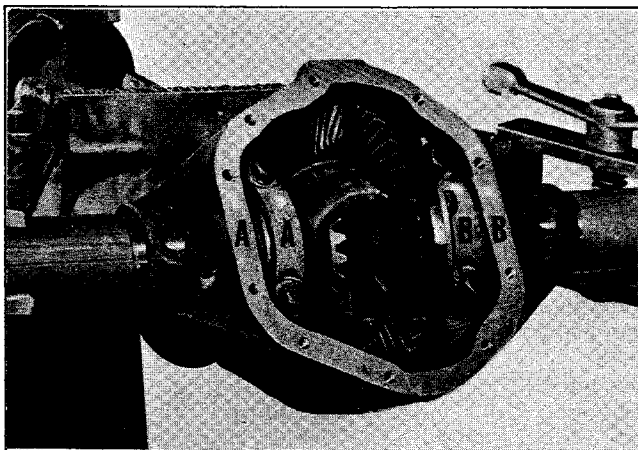

Figure 2-5. Carrier and Bearing Cap Matching Marks
4. Remove differential bearing cap bolts (4) and caps (5). Note matching marks on carrier and differential bearing caps. Refer to Figure 2-5.